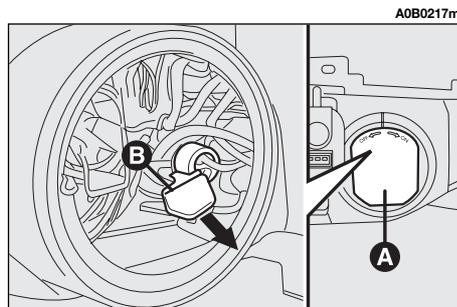

fig. 36
– Remove the protective cover (**A-fig. 36**).
– Remove the bulb holder (**B-fig. 36**) which is snap-fitted.
– Refit the protective cover correctly (**A-fig. 36**).